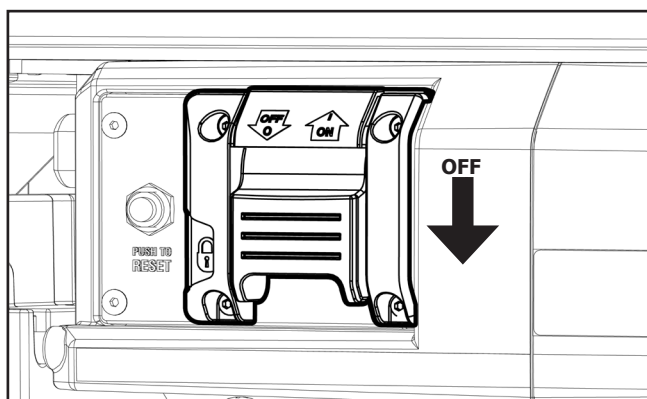
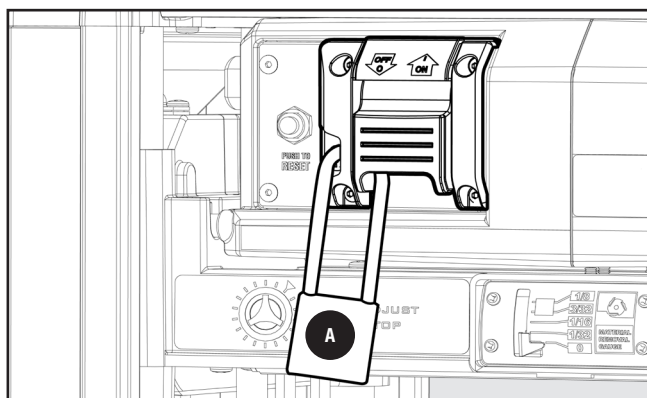

FIGURE 11
FIGURE 12
**IMPORTANT:** When the machine is not in use, the switch should be locked in the "OFF" position, see Figure 11, to prevent unauthorized use. Place a padlock **A** with a 1/4 inch (6.3mm) diameter shackle through the hole on the left side of the switch cover and through the hole in the switch paddle. Lock the padlock. See Figure 12.